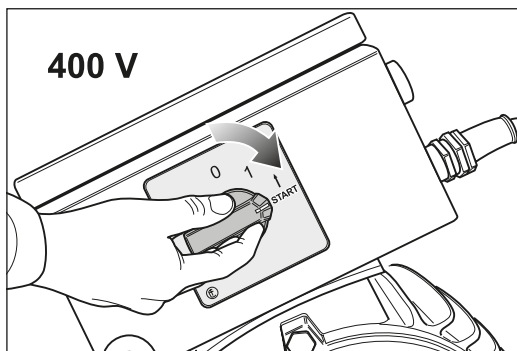
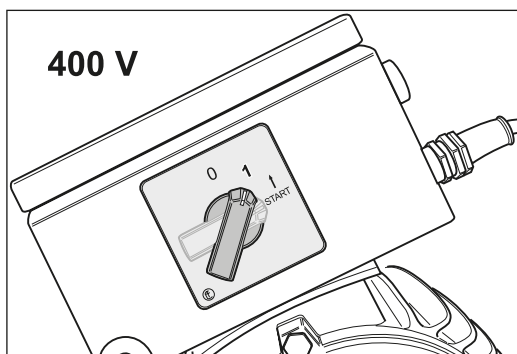

Fig. 19 To switch on the machine turn the switch button at the motor to position -START-.
Fig. 20 Release the switch button. The button turns automatically in position -1-.
- 2 To switch on the machine turn the switch button at the motor to position -START- (fig. 19) and release the switch button after the motor has reached its full speed. The switch button will then automatically move to position -1- (fig. 20).